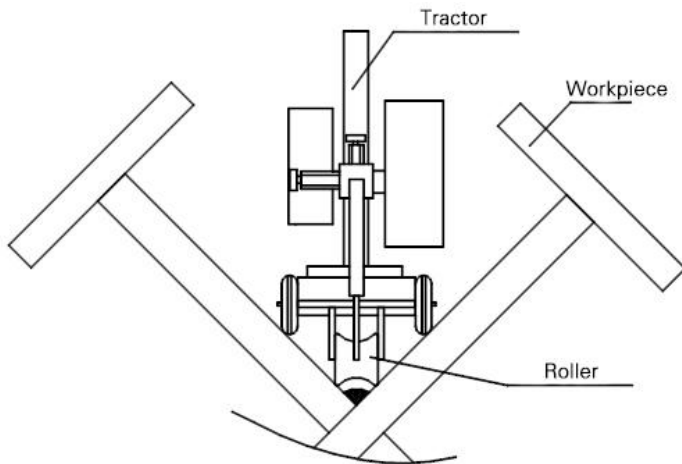

Figure 3 (c) Inner Boat Welding
① According to the instruction manual of the arc welding power source, the arc welding power supply is first tested. After the arc welding power supply is normal, first place the welding method selection switch on the arc welding power supply at the desired position.
② For duplex hand arc welding, the button switch 'integrated/separate' select 'separate', 'remote control/near control' switch select 'near control', 'constant voltage/constant current' switch select 'constant current'; see (Figure 3)
③ For hand arc welding, given potentiometers A and B control outputs A and B, respectively. Independent welding current, thrust current and pilot current adjustment are implemented separately.
④ For flat-duty double-station gas shielded welding, the push button switch 'integrated/separate' select 'respectively', 'remote control/near control' switch select 'near control', 'constant voltage/constant current' switch select 'constant pressure';
⑤ For flat-characteristic double-station gas shielded welding, the given potentiometers A and B respectively control the outputs A and B to control the welding voltage A and the welding voltage B respectively; Note: the matching wire feeder is a semi-automatic wire feeder;
⑥As a submerged arc welding power source, the button switch 'integrated/separate' selects 'integrated', 'remote control/near control' switch selects 'remote control', 'constant voltage/constant current' switch does not control, submerged arc Welding trolley control box realized; see (Figure 3)
⑦Press the wire feed button and the wire withdrawal button on the control box. The wire feed wheel should be able to rotate forward (the wire is fed down) or reverse (the wire is pulled upwards).
⑧Press the test/weld button on the control box to place the "testing", the trolley should be able to walk, and its speed is adjusted by the speed adjustment encoder; press the left/right button on the control box to switch the direction of travel control.